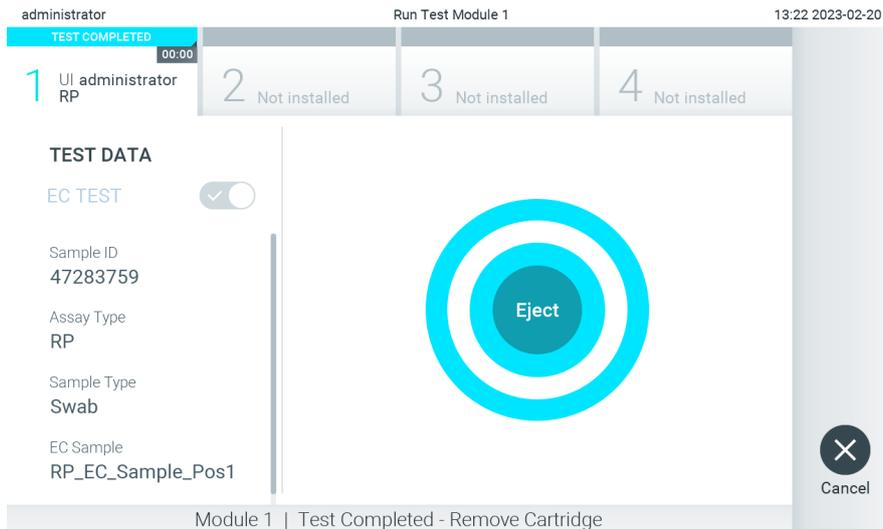

Figure 99. Eject screen display.
11. After the test run is completed, the **Eject** screen will appear (Figure 99). Press  Eject on the touchscreen to remove the QIAstat-Dx assay cartridge and dispose it as biohazardous waste in accordance with all national, state, and local health and safety regulations and laws.